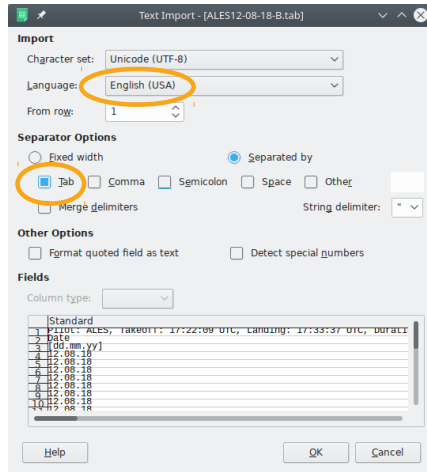

Figure 23: An example of Calc Text Import window.
5. Calc detects that a text file is being imported and it opens a window as shown in Figure 23. Please make sure that the *Tab* option is selected